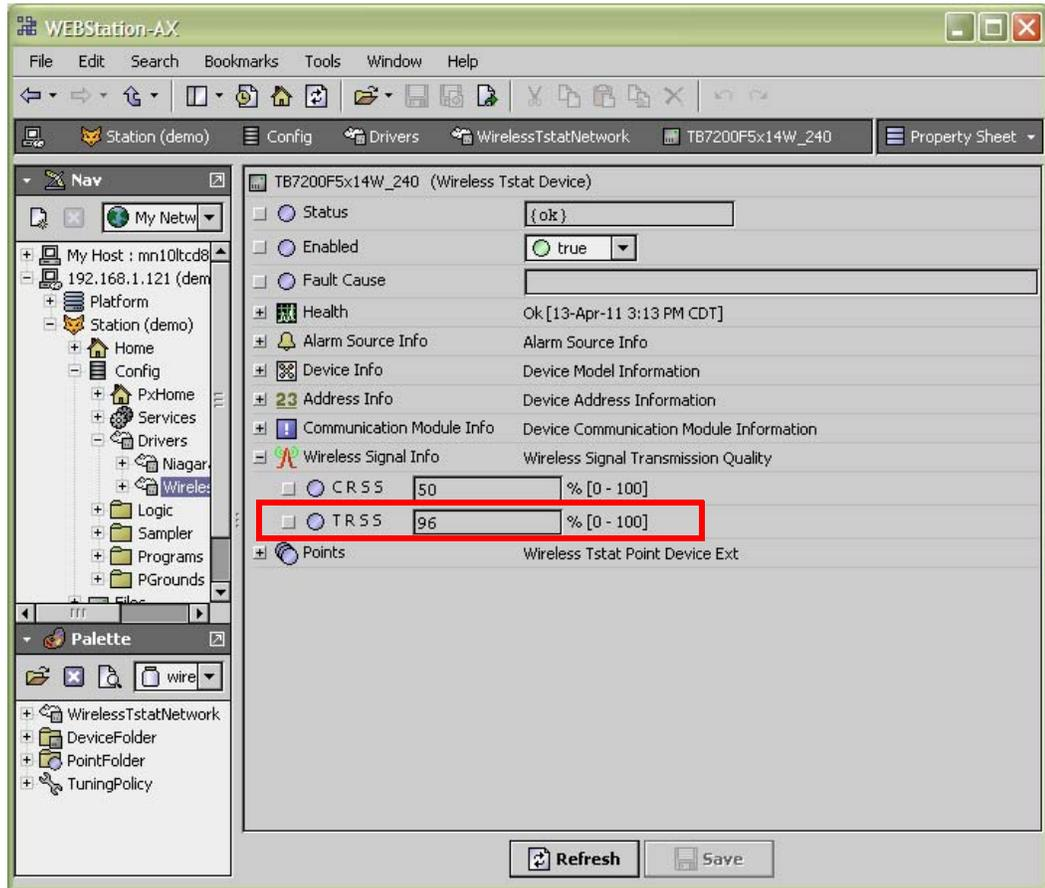

Fig. 7. TRSS field shows signal strength.
2. Find the coverage radius of the controller at its proposed location. This coverage radius is the first hop from the controller. Any thermostat or repeater should be NO FARTHER than 5 hops to and from the WEBS-AX controller with the wireless communication card. This is due to the nature of the ZigBee stack in the wireless controllers. Walk about the floor where a cluster of thermostats are to be installed. Locate the boundary where the signal strength is about 20%. The signal strength can be viewed in the thermostat's property sheet in the Workbench in the TRSS field (Fig. 7).